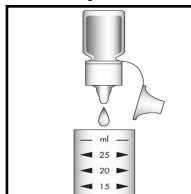

Figure 2
2. Add 5 drops of A-5501 Activator Solution and 2 drops of A-5500 Activator Solution (fig. 2). Stir to mix the contents of the cup. Wait **6 minutes**.